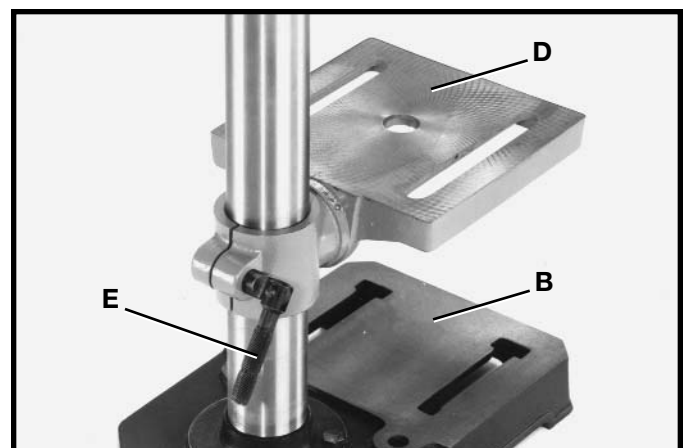

Fig. 6
3. Thread clamp handle (E) Fig. 6, into holes in rear of table bracket as shown. Align table (D) to base (B) and tighten clamp handle (E).